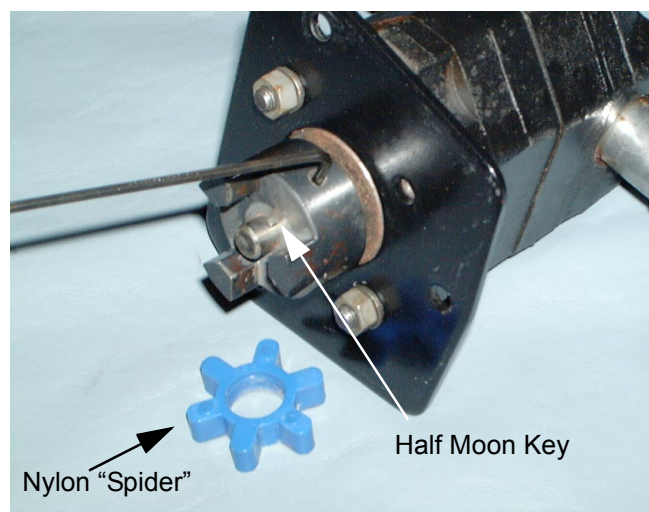

Figure 5
6. Make certain there is a half-moon key between the pump input shaft and the lower coupling half. \_\_\_\_\_ See Figure 5.